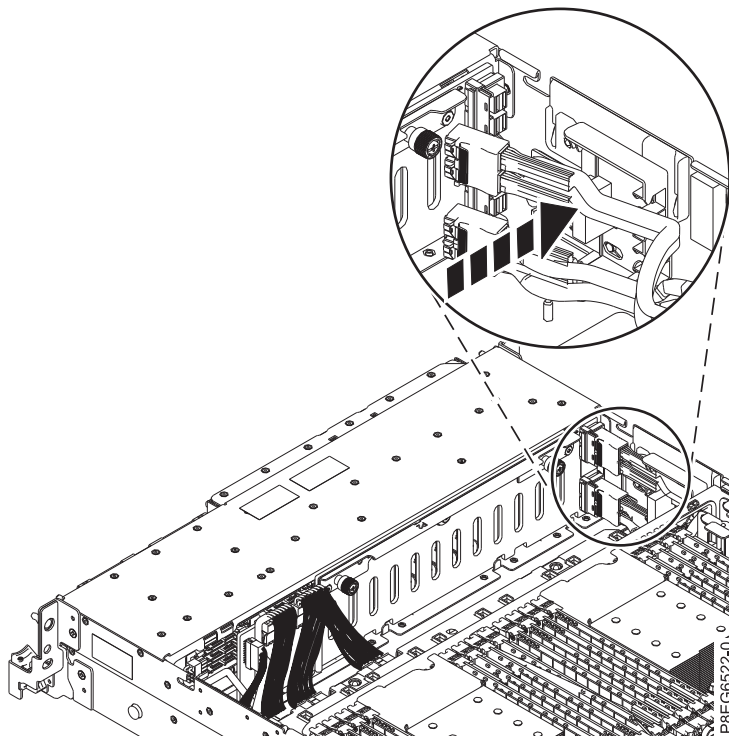

Figure 14. Routing the front SAS cables into the guide block
7. Route the front SAS cables into the guide block on the side of the chassis, as shown in Figure 14.